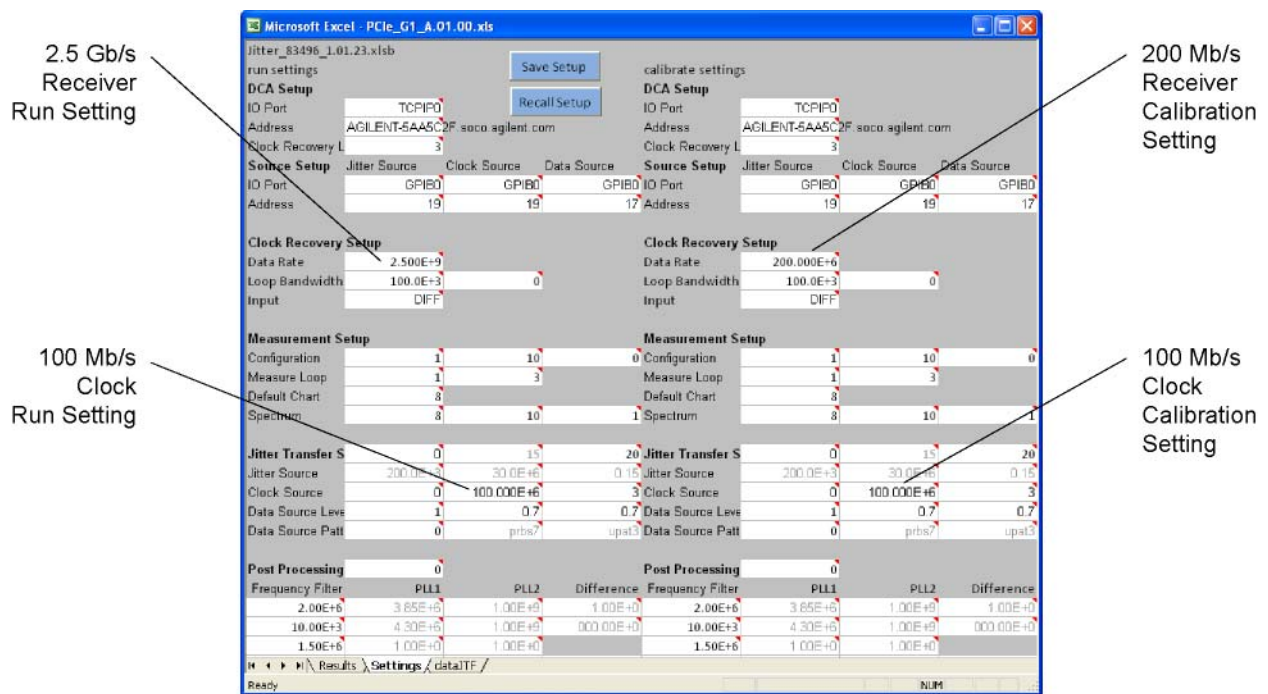

Figure 4-9. Example Data Rate Settings
- 5 Open the **Settings** worksheet and enter the setting shown in Figure 4-9 on page 4-10. Make sure that all other setting meet your measurement requirements.